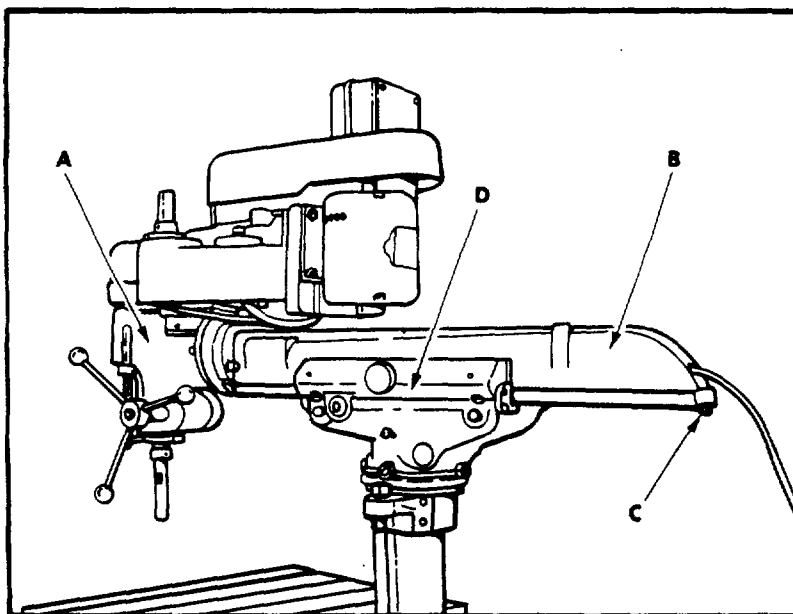

Figure 1
The ram (B) and drill press head (A) fig. 1, are shipped assembled and is positioned on the table for ease in handling. To assemble the ram to the cradle, proceed as follows:
1. Remove the stop screw and nut (C) fig. 1.
2. The drill head (A) and ram assembly (B) should be slid into position in the cradle (D), as shown in fig. 1. **IMPORTANT:** One end of the cradle (D) is indicated as the front end and the drill head (A) must be at this end. Also care should be taken to prevent jarring the ball bearings in the cradle when sliding the ram into position.
3. Guide the ram (B) carefully in the cradle (D) making sure that it is properly seated and that it slides freely.
4. After assembling, replace the stop screw and nut (C) fig. 1.